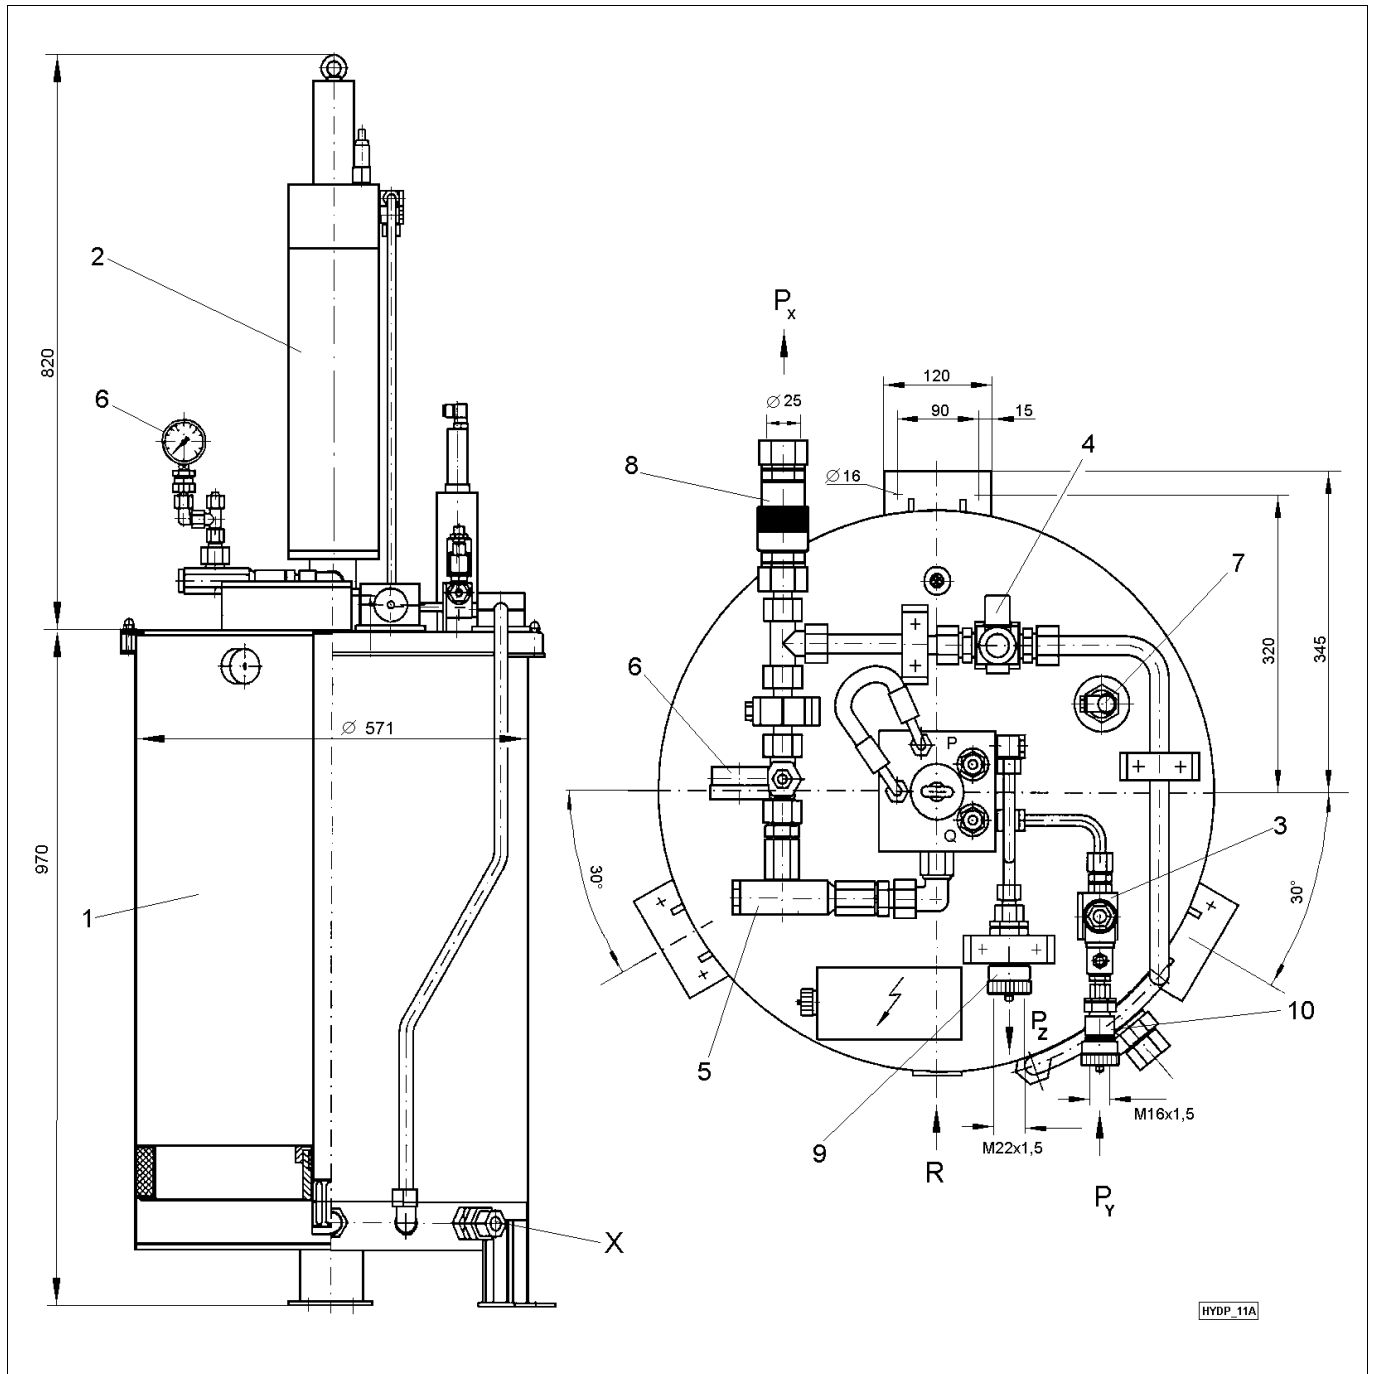

Fig. 1: General view
- **Stop refilling when grease is escaping from the overfilling safety valve ('X' in figure 1)**